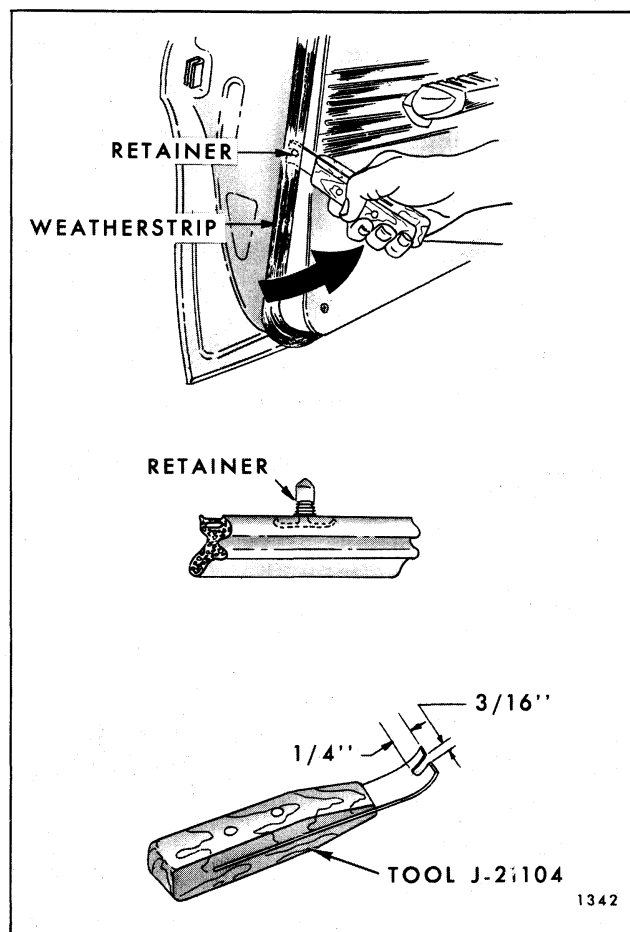
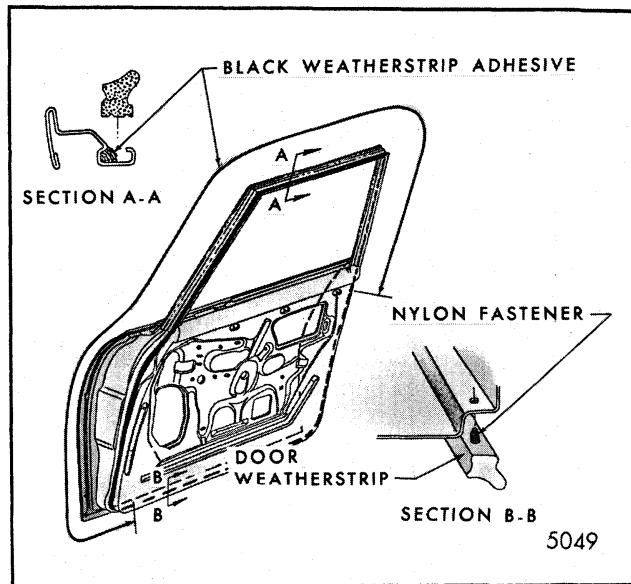
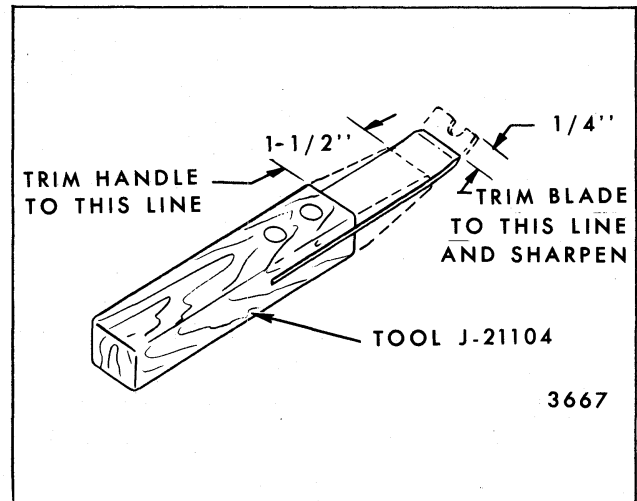

Fig. 5-21-Door Weatherstrip Removal
Fig. 5-22-Door Weatherstrip - Closed Styles
Fig. 5-24-Weatherstrip Removal Tool
Both the front and rear doors use nylon fasteners to retain the door weatherstrips. The fasteners are a component part of the weatherstrip and secure the weatherstrip to the door by engaging piercings in the door panels. The serrations on the fastener also seal the openings from water entry (Fig. 5-21). On closed styles, nylon fasteners are used below the beltline only. Weatherstrip adhesive retains the weatherstrip around the door upper frame (Fig. 5-22). On all styles, in addition to the fastener, weatherstrip adhesive is used at the beltline and down the front door hinge pillar.
To disengage nylon fasteners from door panel piercings use tool J- 21104 or equivalent (Fig. 5-21). This tool permits removal of the weatherstrip without damaging the serrations on the fasteners so that the weatherstrip can be reinstalled if desired. Although a replacement door weatherstrip will include nylon fasteners, individual fasteners are also available as service parts.
2. Use a flat-bladed tool to break cement bond between door and weatherstrip. A tool applicable to this usage can be fabricated from tool J-21104 or equivalent (Fig. 5-24). On all styles, weatherstrip adhesive is used for a distance of 9" on door lock pillar and the entire length of the front door hinge pillar (Fig. 5-22). In addition, on closed styles, weatherstrip is retained by weatherstrip adhesive completely around door upper frame.
3. On closed styles, apply black weatherstrip adhesive around door upper frame (Fig. 5-22).
2. Beginning at the front body hinge pillar, carefully pull weatherstrip out of retainer while breaking sealer bond between weatherstrip and retainer with a flat-bladed tool. A tool for this use can be fabricated from tool J-21104 or equivalent as shown in Figure 5-24.
3. Using a flat-bladed tool such as a putty knife, or side roof rail weatherstrip removal tool (or equivalent) as described in Figure 5-24, carefully break sealer bond between water deflector and door inner panel down both sides of deflector. Make certain tool blade is between inner panel and string that is embedded in sealer.